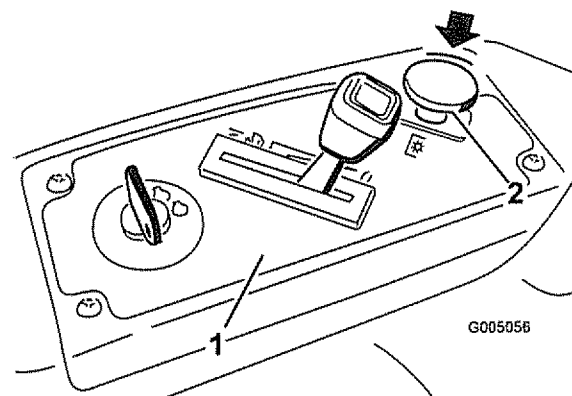

Figure 10
2. Disengage the blades by moving the blade control switch to Off (Figure 10)